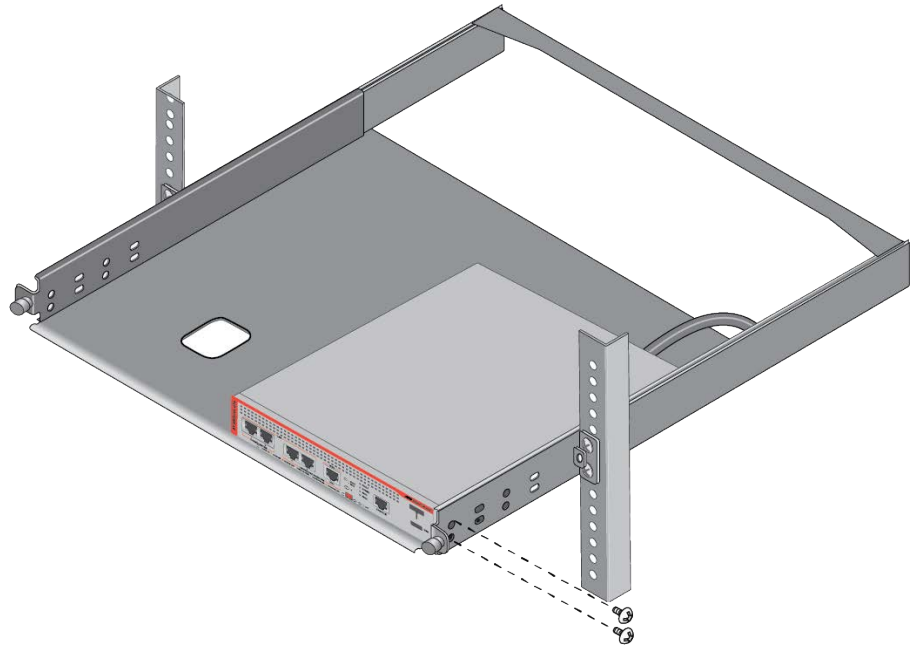

Figure 41. Securing the Router to the RKMT-J15 Equipment Rack Tray
8. Secure the router in the tray with two M4x6mm screws included with the tray. Refer to Figure 41 on page 73.